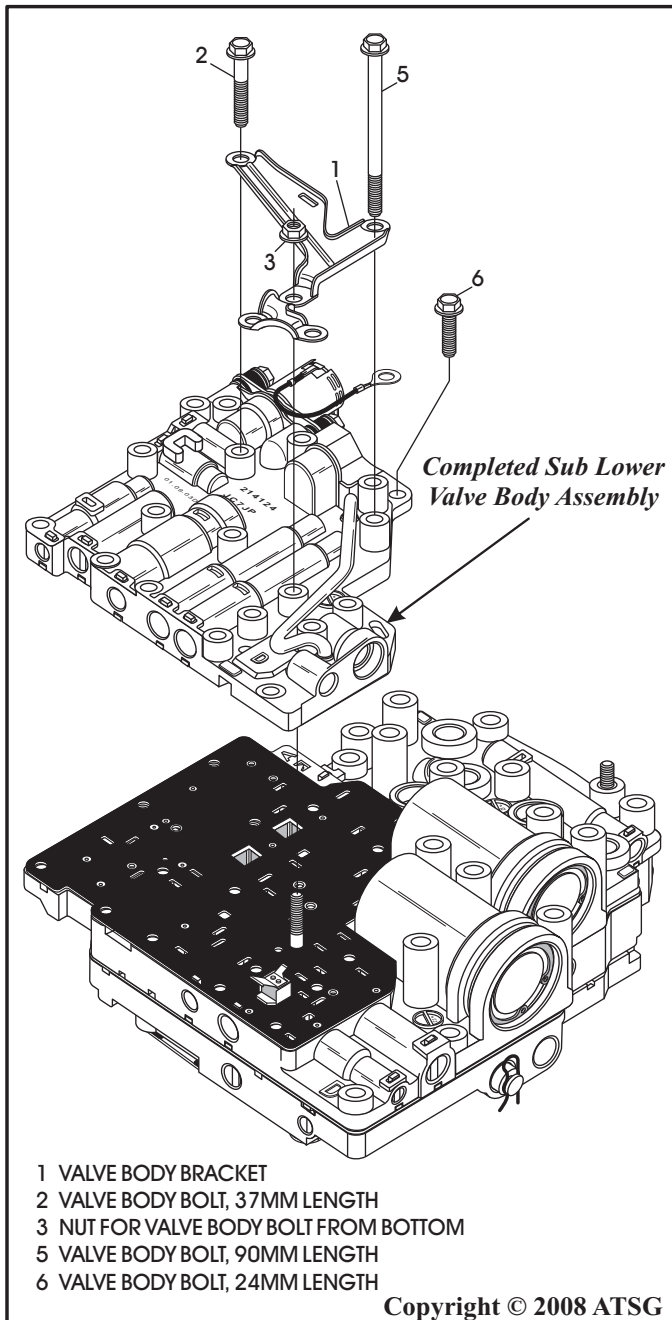

Figure 107
43. Install the completed sub lower valve body over the bolt and on top of spacer plate "A", as shown in Figure 107.
44. Install the valve body bracket over bolt and on top of the sub lower valve body, as shown in Figure 107.
45. Install 90mm (5) and 37mm (2) bolts through the bracket, as shown in Figure 107, and hand tighten only at this time.
46. Install nut (3) on 90mm bolt coming through from the bottom, as shown in Figure 107, and hand tighten only at this time.
47. Install one 24mm bolt (6), in location shown in Figure 107, and hand tighten only.